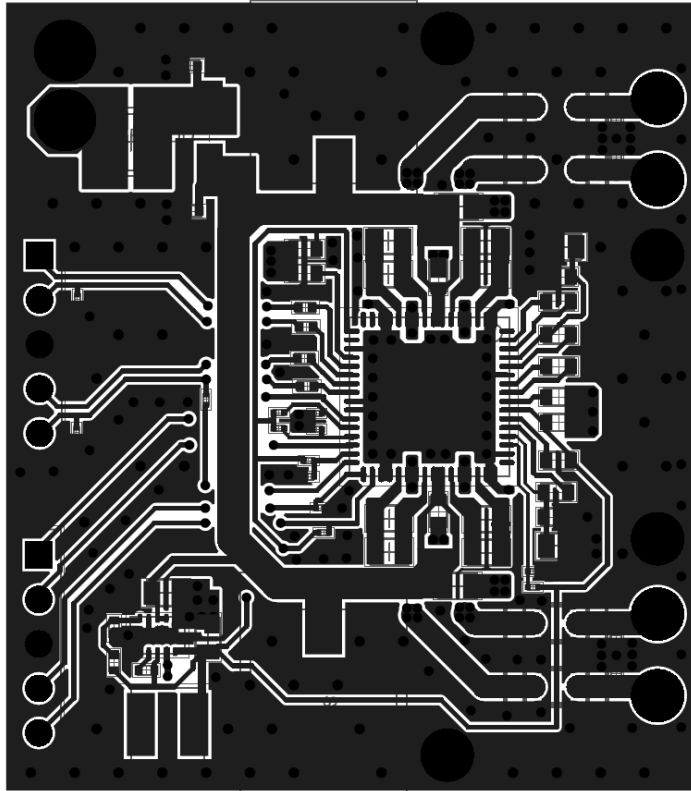
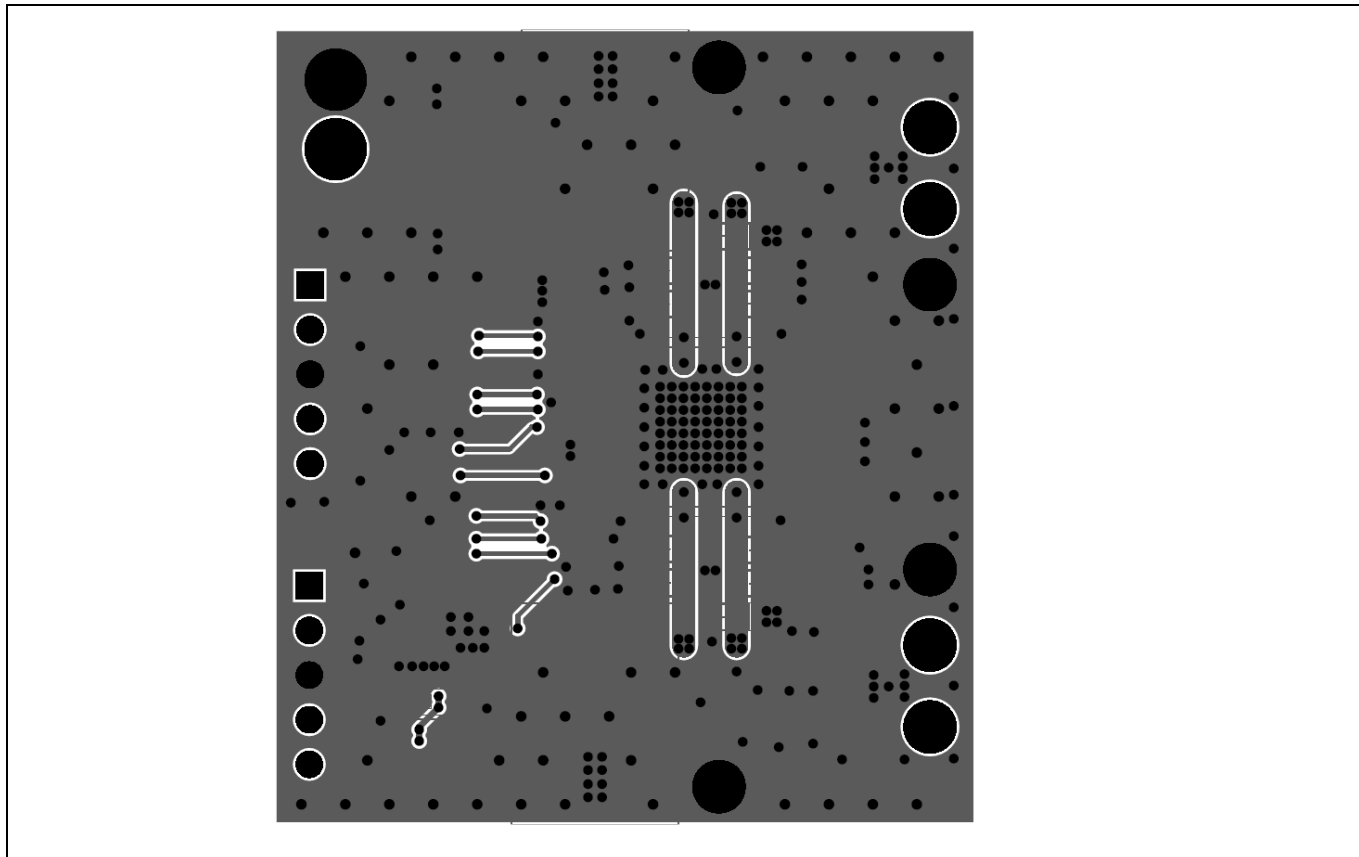

Figure 5 Top side of the PCB layout
Figure 6 Bottom side of the PCB layout
- Figure 5 and Figure 6 show the top and bottom PCB design respectively. It can be seen that all the component placement and main routing is done on the top layer.